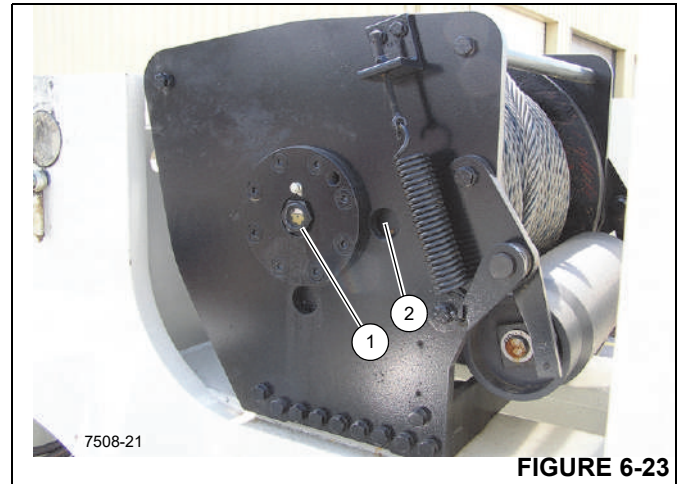

FIGURE 6-23
3. Check the lubricant level. Oil should be visible in the sight glass (1, Figure 6-23).
- a. Clean around the fill plug (2) and remove the fill plug.